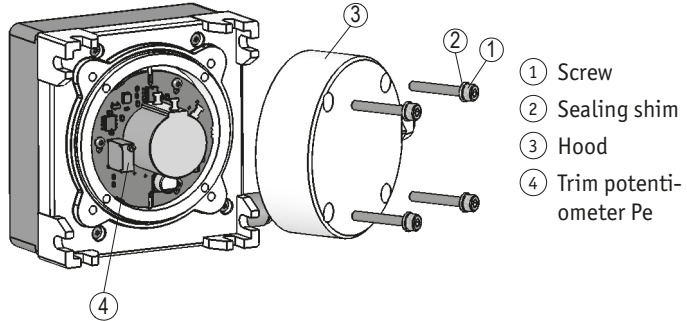

Fig. 15: Setting the trimming potentiometer MWU
5.3 Alignment of the R/U transformer (MWU)**Adjusting the trim potentiometer (Fig. 15)**
By means of the trim potentiometer Pe (4) (see Fig. 15), this value can be adjusted to the actual final position of the application.
1. Undo screws (1) with sealing shims (2) and open the hood (3).
2. Adjust the trim potentiometer Pe (4), see alignment-
3. Close the hood (3) and fasten with sealing shims (2) and screws (1).